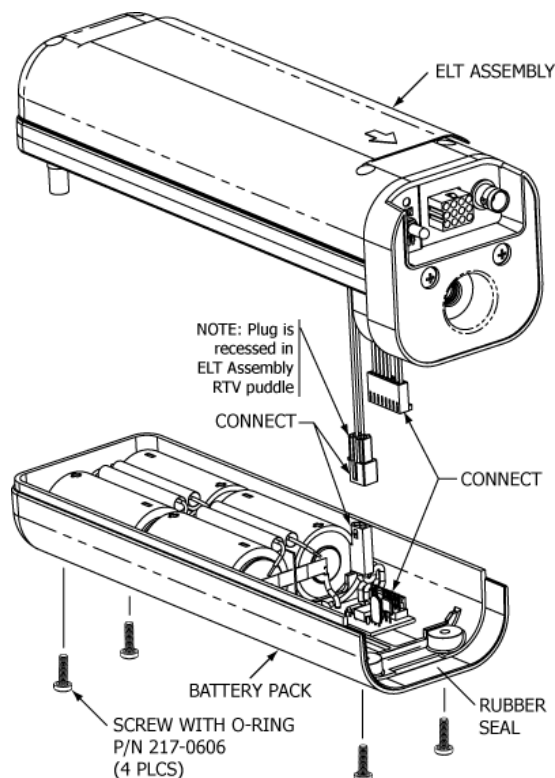

Figure 22 Battery Pack Installation
- 2) See Figure 22 Battery Pack Installation.